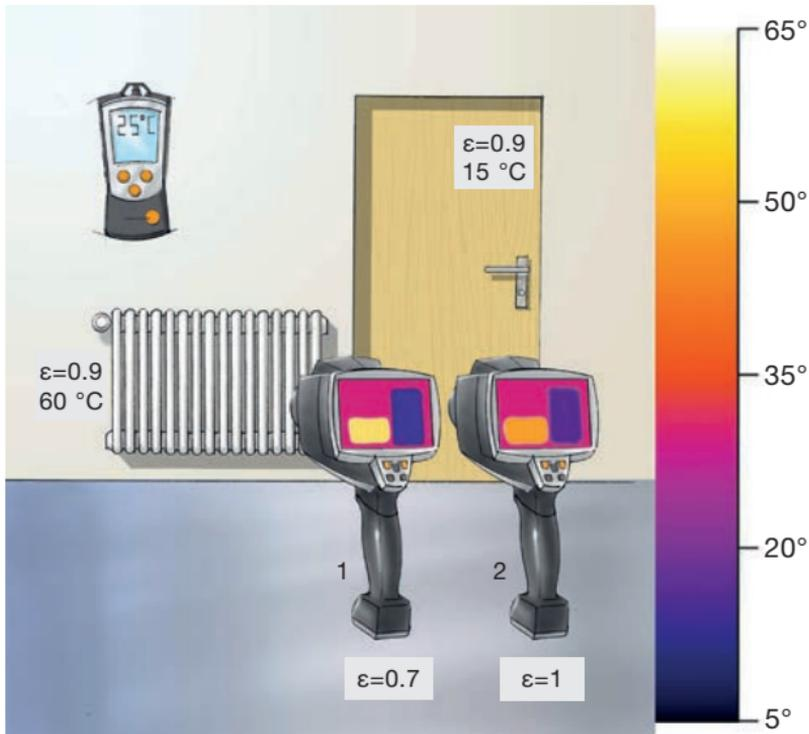

Figure 1.2: Effects of an incorrect emissivity setting on the temperature measurement
1. Where the temperature of the measuring object is higher than the ambient temperature (cf. heater shown in Fig. 1.2, p.11):
2. Where the temperature of the measuring object is lower than the ambient temperature (cf. door shown in Fig. 1.2, p.11):
You should also factor in the setting of the reflected temperature (RTC) as well as the emissivity setting ( $\epsilon$ ) so that your thermal imager can calculate the temperature of the surface of the measuring object correctly. In many measurement applications, the reflected temperature corresponds to the ambient temperature (cf. “Radiation”, p. 19). You can measure this with an air thermometer, e.g. testo 810. An accurate setting of the emissivity is particularly important where there is a large difference in temperature between the measuring object and the measuring environment (cf. Fig. 1.2, p. 11).